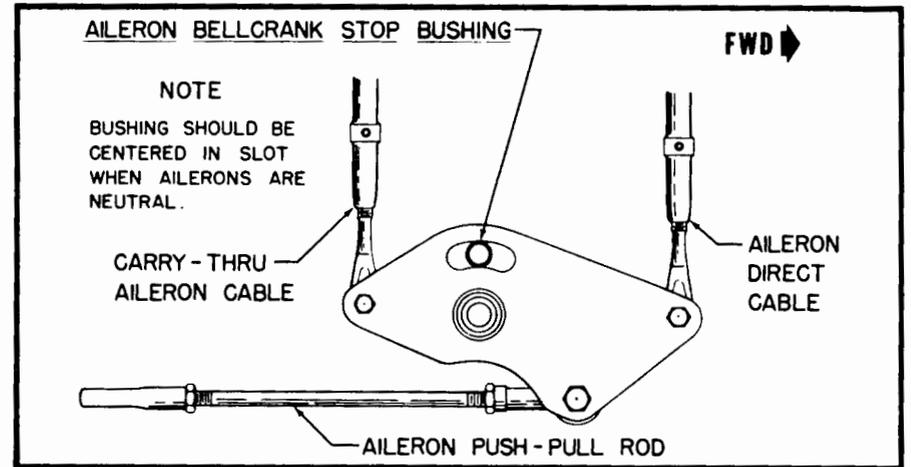

Figure 24. Aileron Bellcrank Adjustment
- (2) String cables back through system.
- (3) The ailerons are restricted in travel by a feature built into the bellcranks. Stops in the bellcrank allow a total travel of 34°. In rigging the ailerons, it is important that the bellcranks are neutralized. Connect the cables and adjust the forward turnbuckles on each aileron until the bellcrank stop bushing is centered in the slot of the bellcrank as shown in figure 24. Cable tension should be approximately 30 pounds with the control wheels in the full-